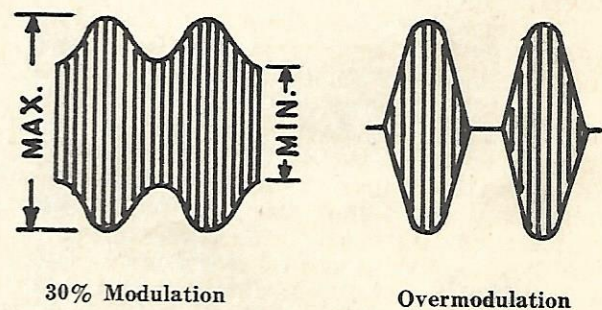

Figure 7.20—Envelope Patterns
7.20 For method 1, apply a small amount of the modulating voltage to the EXT. SYNC. terminals, turn the SYNC. switch to EXT., adjust and lock the sweep to ½ the modulating frequency. This will produce a pattern of the modulated carrier envelope similar to Figure 7.20. If the A. C. OUT terminals are used for